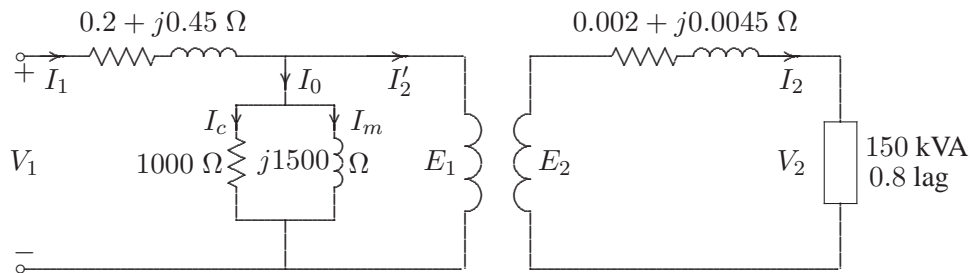

FIGURE 19
3.5. A 150-kVA, 2400/240-V single-phase transformer has the parameters as shown in Figure 19.